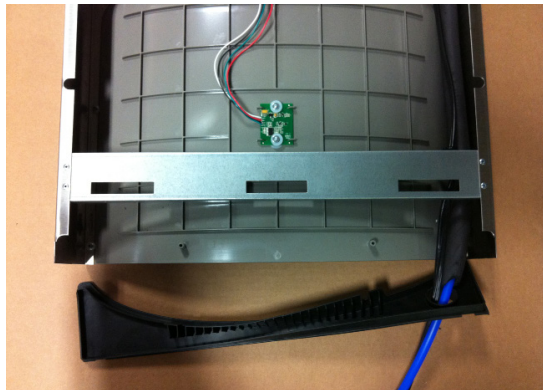

Fig. 6
- 7) Feed power cord & 3/8" water line through hole in tower/basin gasket (See Fig. 6).